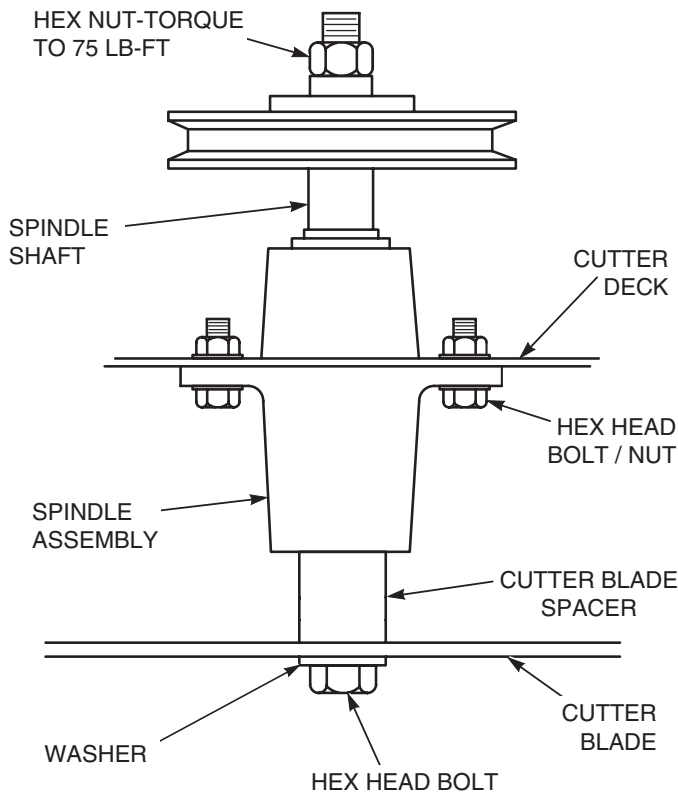

Figure 7-7. Blade Replacement
1. Sharpen the cutting edge at the same bevel as the original. See Figure 7-7. Sharpen only the top of the cutting edge to maintain sharpness.
3. Secure the cutter blades to prevent them from rotating, (use the optional Blade Buddy tool P/N 9212, to assist in securing the cutter blades), remove the nut from the blade attaching bolt. Remove the cutter blade, bolt and spacer from the spindle shaft. See Figure 7-7.
6. Install the hex nut to the blade bolt at the top of the cutter spindle. Secure the blades from rotating and torque to 75 lb-ft. See Figure 7-7.